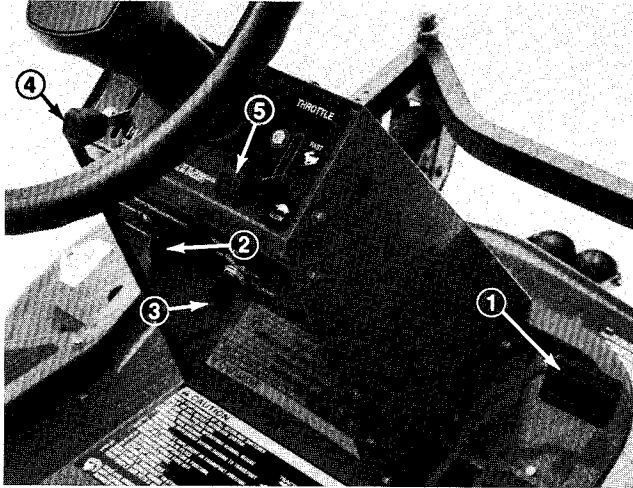

Figure 8
**Traction Pedal** (Fig. 8) — The traction pedal makes the machine move forward and rearward, using the heel and toe of the right foot. Depress the top of pedal to move forward and bottom of pedal to move rearward. Ground speed is proportionate to how far pedal is depressed. For maximum ground speed, traction pedal must be fully depressed while throttle is in FAST position. To get maximum power under heavy load or when ascending a hill, have throttle in FAST position while depressing traction pedal slightly to keep engine rpm high. When engine rpm begins to decrease, release traction pedal slightly to allow rpm to increase.
**PTO Switch** (Fig. 8) — The PTO switch has two positions: ENGAGE and DISENGAGE. Toggle switch releases blade brake and engages electromagnetic clutch to drive deck pulleys.
**Ignition Switch** (Fig. 8) — The ignition switch, used to start and stop the engine, has three positions: OFF, RUN and START. Rotate key clockwise — START position — to engage starter motor. Release key when engine starts. The key will move automatically to the RUN position. To shut engine off, rotate key counterclockwise to the OFF position.
**Choke (Fig. 8)** — To start a cold engine, move choke control to the ON position. After engine starts, regulate choke to keep engine running smoothly. As soon as possible, open the choke by moving it to the OFF position. A warm engine requires little or no choking.
**Throttle (Fig. 8)** — Throttle is used to operate engine at various speeds. Moving throttle forward increases engine speed — FAST; rearward decreases engine speed — SLOW. The throttle control, in conjunction with traction pedal, controls ground speed of the machine.